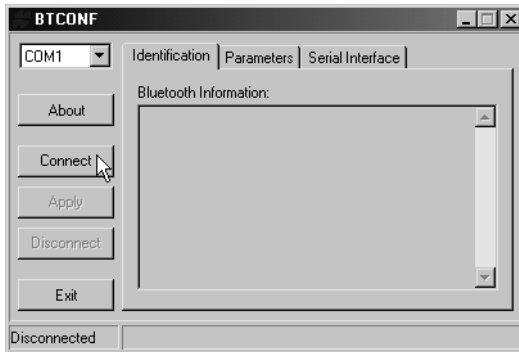

**Figure 2-32. Bluetooth Module Configuration Main Screen**
3. Run the Bluetooth module configuration program (Btconf.exe) (Figure 2-32).